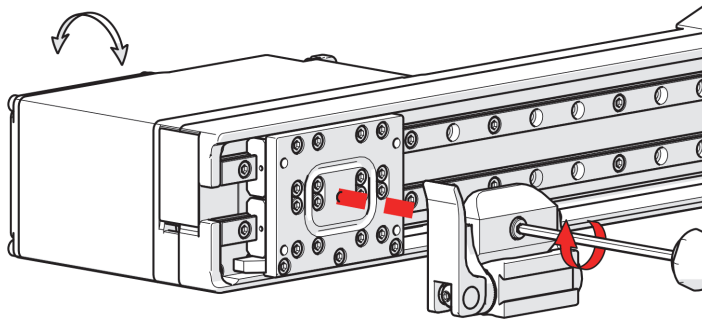

Figure 2-56 Attach the pivot nose to the carriage
14. Attach the pivot nose to the raster arm carriage (see Figure 2-56 on page 84).